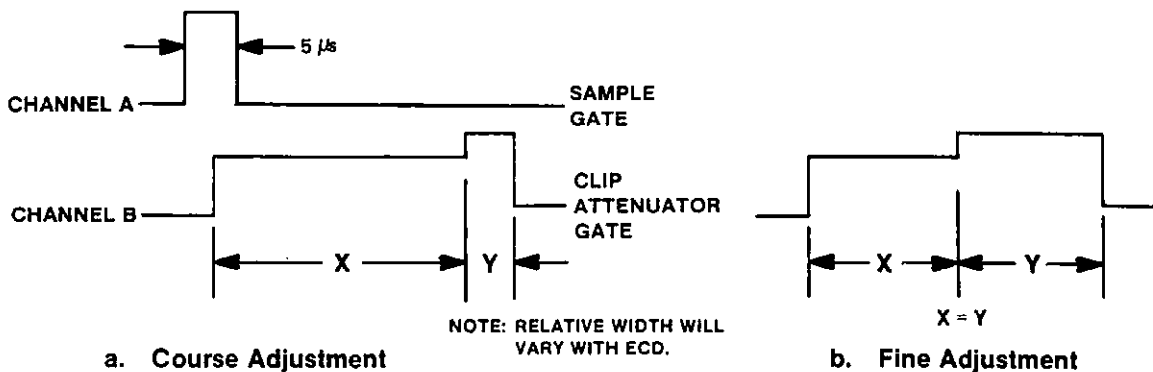

Figure 2.19. Clip Attenuator Waveform Adjust
e. Adjust R10 on the Clip Attenuator module so that the Sample Gate overlaps with the leading edge of the Clip Attenuator Gate (see Figure 2.19.a).
f. Monitor only the Clip Attenuator Gate and adjust R10 so that $X=Y$ (see Figure 2.19.b).